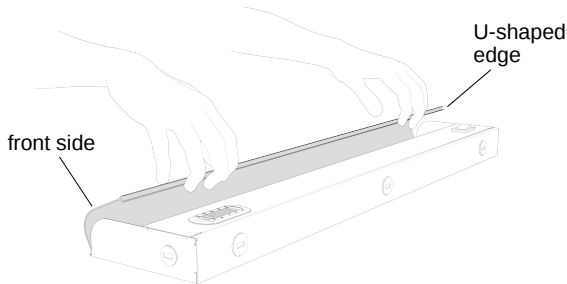

Fig.1
1. Place your thumbs against lens front side while using other fingers to pry the U-shaped edge and gently pull the lens away from the fixture. See Fig. 1.